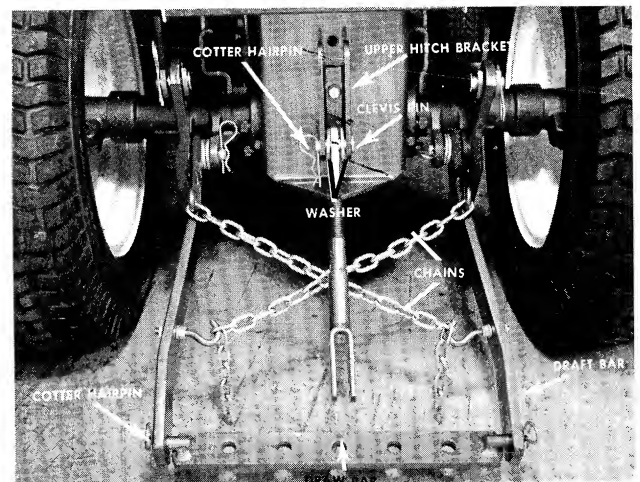

FIGURE 3. THREE POINT HITCH
Step 5. Assemble the draw bar to the draft bars and secure with cotter hairpins. See Figure 3.
Step 7. Place a lockwasher on the hook bolt and place the hook bolt through the draft bar so it is on the inside. Do this on both draft bars. See Figures 3 and 7.
Step 8. Fasten the chains to the rear hook welded on the draft bar and cross over to the hook bolt. Do both chains this way. See Figure 3.
Step 9. Tighten the outside nuts on the hook bolt until there is only about $\frac{1}{2}$ " slack in the center of the chain. See Figure 3 and 7.
Step 12. Assemble the flat end of the Center Adjustment Arm to the bottom hole in the Upper Hitch Bracket with two flat washers, a clevis pin and a cotter hairpin. See Figure 3.